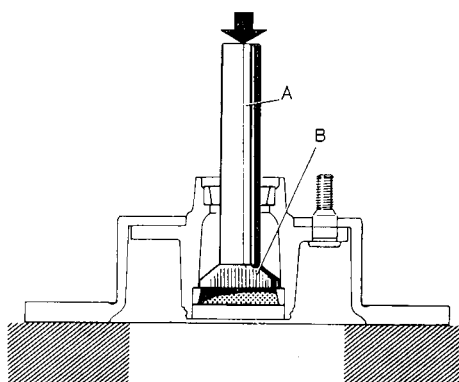
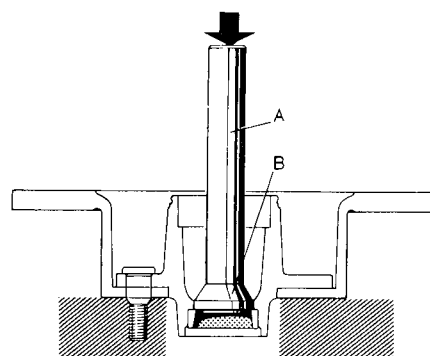

Fig. 7-32. Removing inner bearing ring
Fig. 7-33. Removing outer bearing ring
5. Remove the bearing rings. Use driver 2724 (Fig. 7-32) for the inner bearing ring and driver 2725 (Fig. 7-33) for the outer bearing ring together with standard handle 1801.